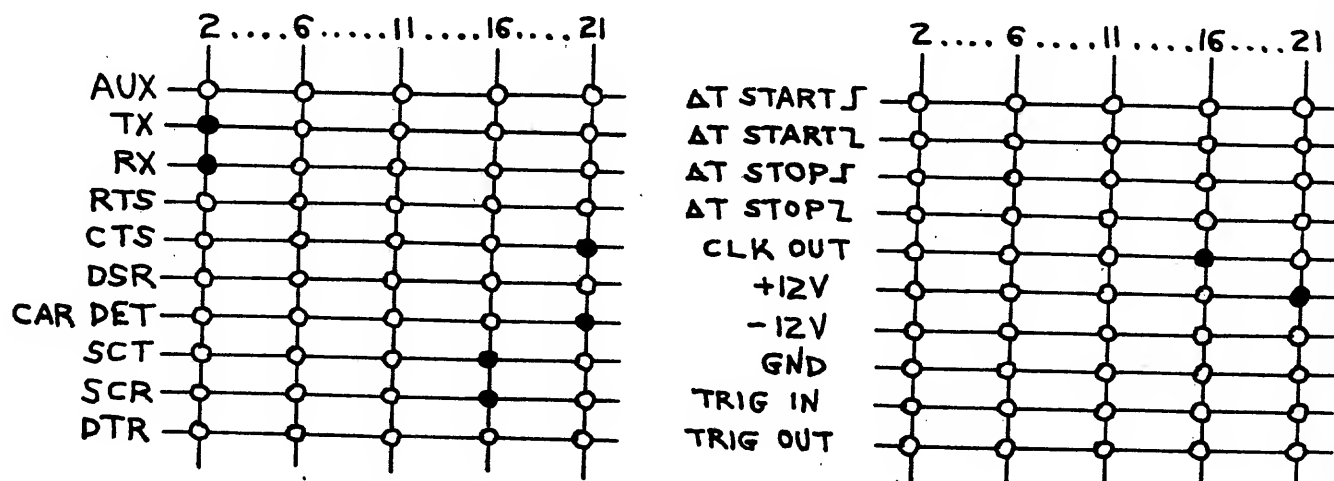

Figure 3. Matrix Board Pin Configuration.
a. Insert pins in matrix as shown in figure 3. Remove RS-232 cable from rear of matrix.